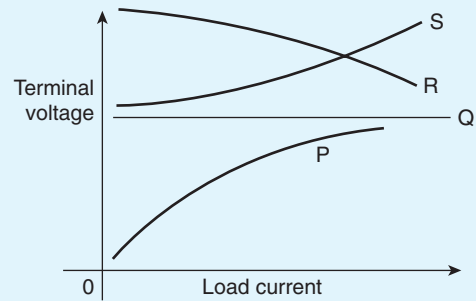

Figure 22.31
23. From Fig. 22.31, the expected characteristic for a shunt-wound d.c. generator is: